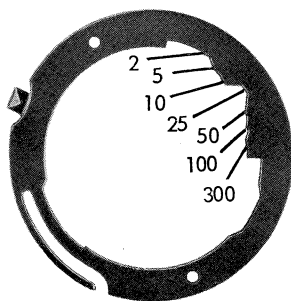
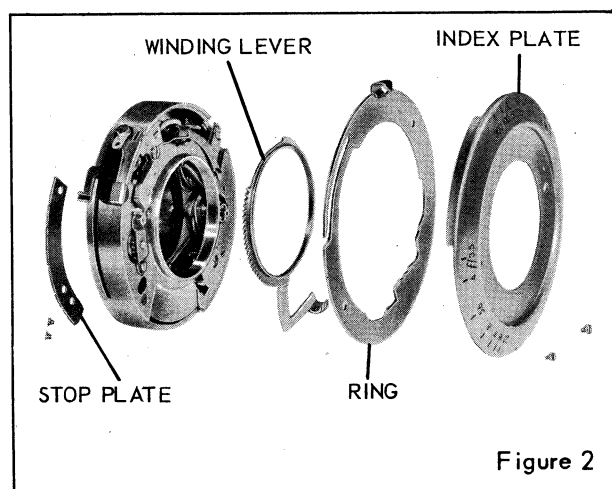

Figure 1
Figure 2
| | Excessive retard sector travel. | Swedge the speed control RING, figure 2, at the area controlling the slow speed. (See figure 1.) |
| Shutter speeds fast | Insufficient retard sector travel. | File the speed ring at the area controlling the fast speed. (See figure 1.) |
2. Speed and diaphragm INDEX PLATE, figure 2.